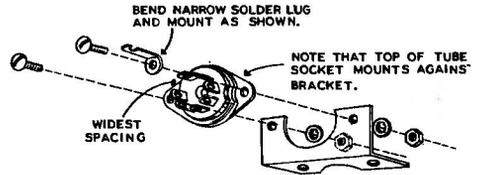

Fig. 2
- () Mount the small solder lug and the tube socket on the tube mounting bracket by means of 3-48 screws, lockwashers, and nuts. See Figure 2 and Figure 7. Make certain that the widest spacing between pin holes (see Figure 3) is as shown in Pictorial 1.
- () Bend the small solder lug as shown in Figure 2 and Figure 7.